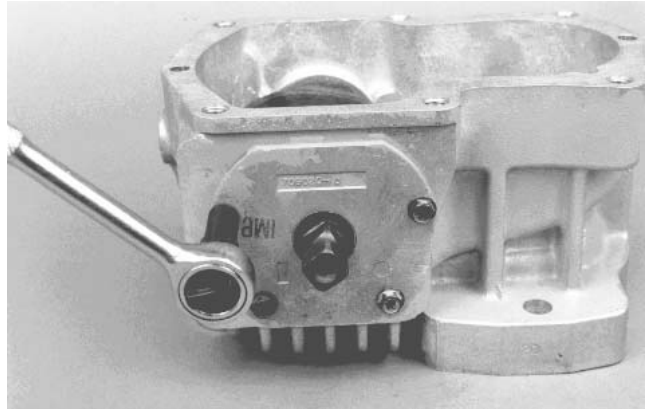

Figure 52
16. Remove hex tapping screws retaining the trunnion seal cover and trunnion cover to housing. Mark position of covers for reassembly. The trunnion seal cover assembly includes an O-ring, lip seal, and trunnion bearing on the control side. The trunnion cover assembly includes an O-ring and trunnion bearing on the side opposite the control. Remove these parts from the housing (Fig. 52).